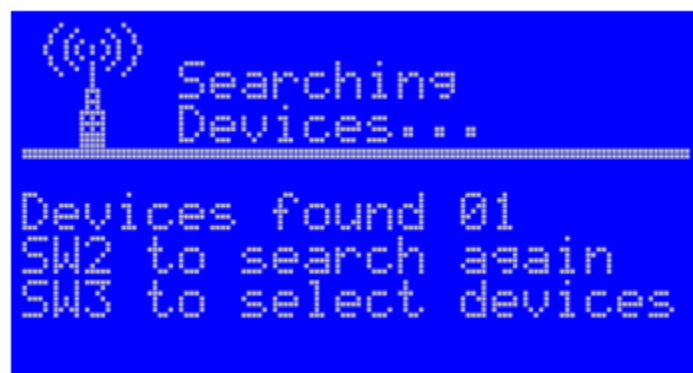

Figure 10-18. LCD OTAP Search for Devices
3. Press SW2 to search for devices to program. The searching devices screen appears as shown in Figure 10-18.